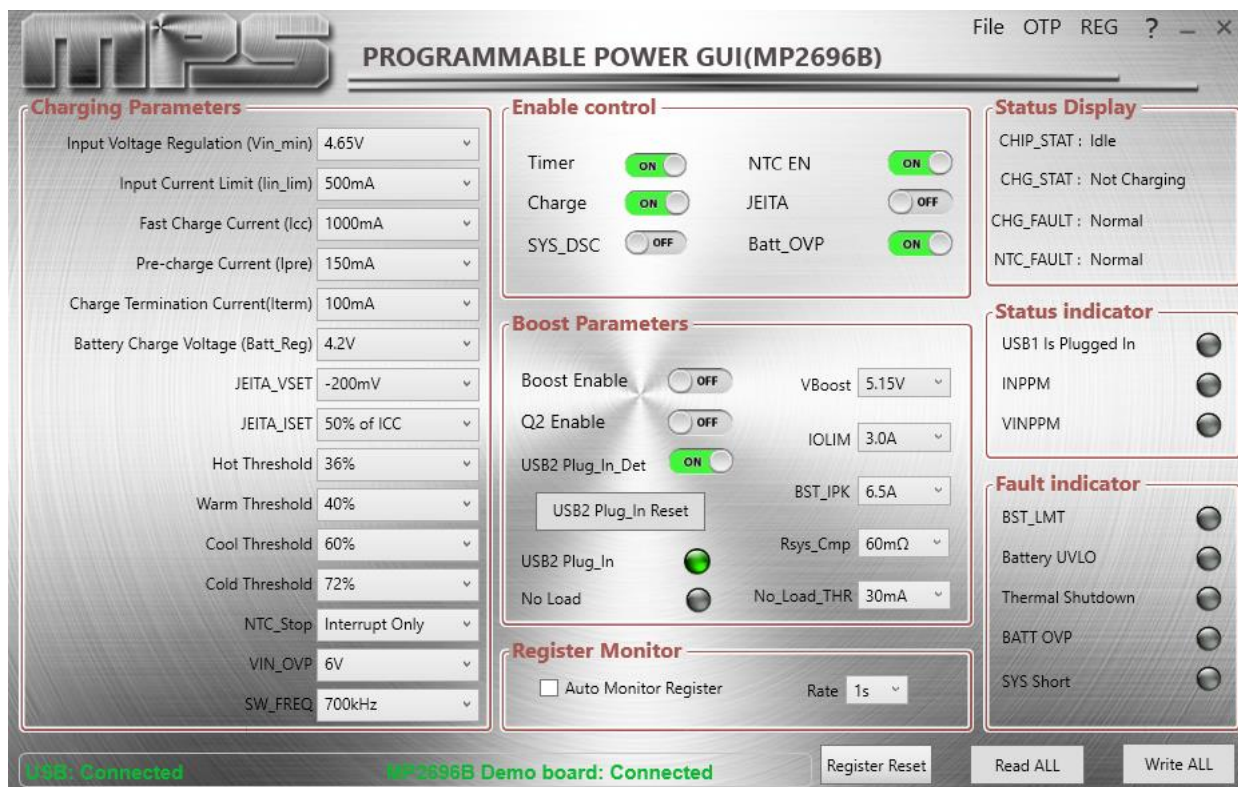

Figure 6: Connected USB and MP2696B Demo Board
- If connection is successful, both the USB and the MP2696B demo board statuses will be listed as “Connected” in green (see Figure 6).
2. Click the “Read All Register” button to read the I²C register values. The default values should be displayed (see Figure 6).